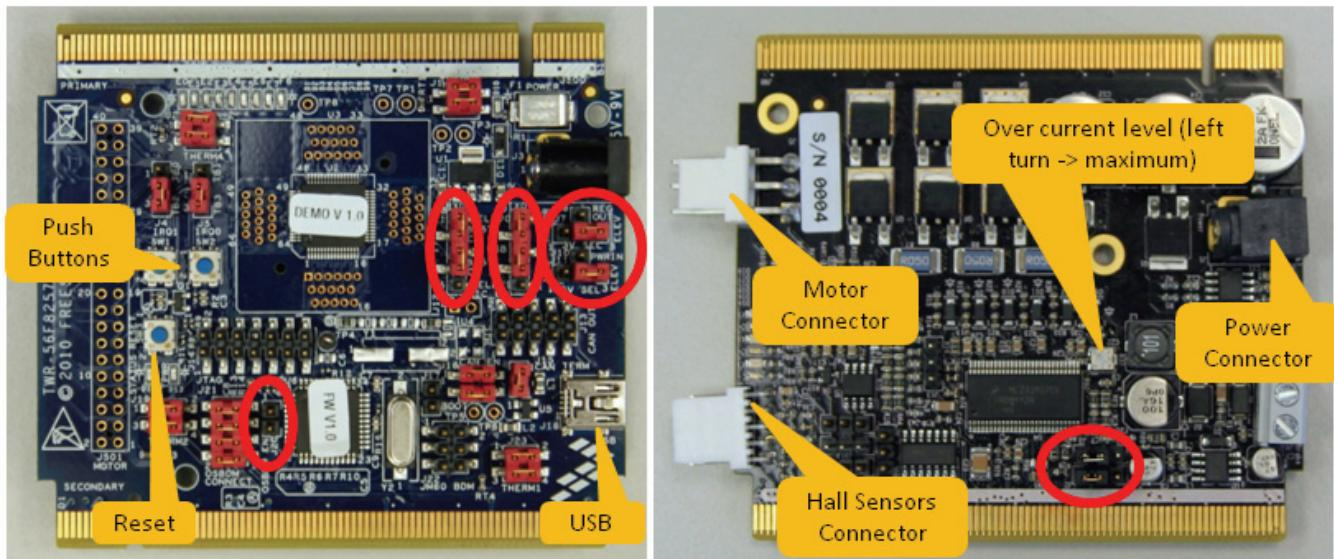

Figure 1-2 Configuration of Jumpers
1. Check jumper settings on board TWR-56F8257 REV B and Check jumper settings on board TWR-MC-LV3PH(see Table 1 Board Jumper Setting and Figure 1-2 Configuration of Jumpers)